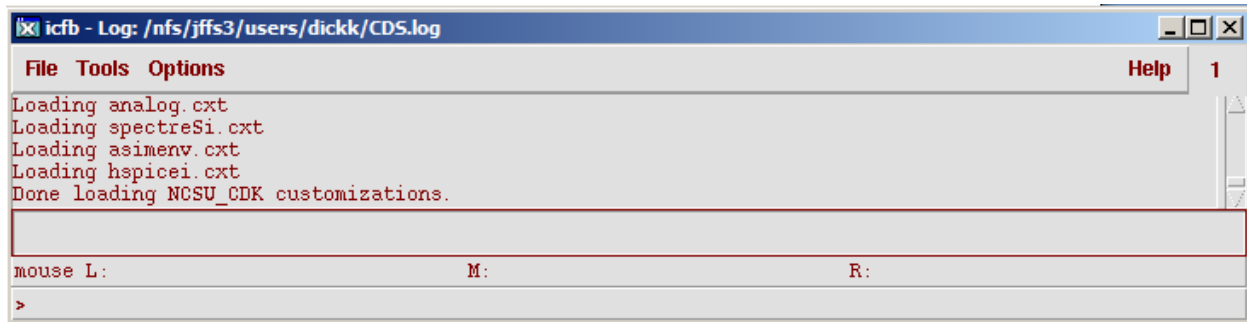

Figure 1: Icfb log
- 1) The icfg log is the window that gives you gives you a list of the actions that have taken place in cadence, Figure 1. This most recent action is at the bottom of the list. This is where you go to see the result of DRC and LVS checks. The file tab allows you to create a new library or cell, import files, export files and open files in the library manger. The tools tab gives you a list of the different tools that are available in cadence. The options tab allows you to save the session and change the preferences.